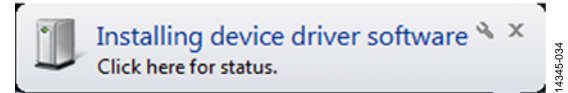

Figure 34. Installing Driver Software Message
1. Verify that the SDP Blackfin board is connected to the PC using the USB cable. The window in Figure 34 pops up on the task bar; Windows then installs any other necessary drivers.